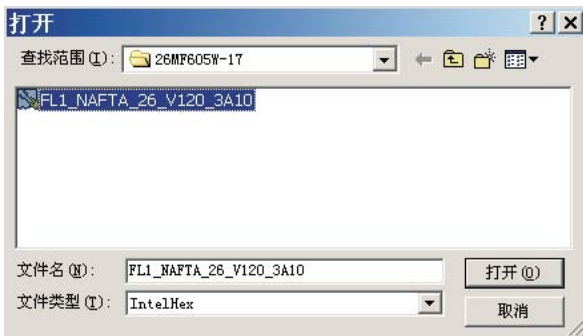

Fig. 7
- Press the Load hex then select the FL1\_NAFTA\_26\_V120\_3A10 As shown in Fig. 7.